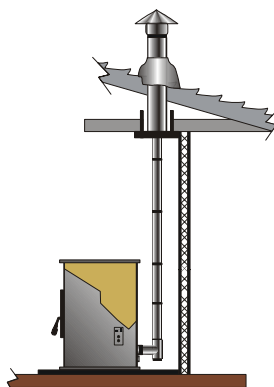

Figure 20
-  **VERTICAL, UP TO AN EXISTING CLASS A CHIMNEY OR MASONRY CHIMNEY**. An appropriately sized adapter will be needed when connecting onto either a Class A or into a masonry chimney. NOTE: The connection into a masonry chimney must be airtight. Figures 20, 21, and 23.